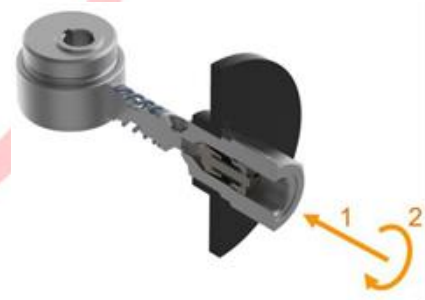

Fig. 15.2 Pump Element Installation and removal
1. Place the pump element vertically into the pump outlet housing bore (Fig. 15.2).
3. a torque wrench, the preset value of the torque wrench must not be less than 18 Nm (Fig. 15.2).